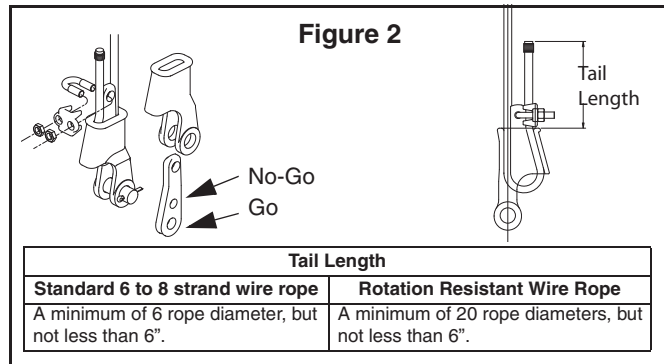

Figure 2
- Use only with standard 6 to 8 strand wire rope of designated size. For intermediate size rope, use next larger size socket. For example: When using 9/16" diameter wire rope use a 5/8" size Wedge Socket Assembly. Welding of the tail on standard wire rope is not recommended. The tail length of the dead end should be a minimum of 6 rope diameters but not less than 6" (See Fig. 2).
- To use with Rotation Resistant wire rope (special wire rope constructions with 8 or more outer strands) ensure that the dead end is welded, brazed or seized before inserting the wire rope into the wedge socket to prevent core slippage or loss of rope lay. The tail length of the dead end should be a minimum of 20 rope diameters but not less than 6" (See Fig. 2).
- Align live end of rope, with center line of pin (See Fig. 2).
- Secure dead end section of rope (See Fig. 2).